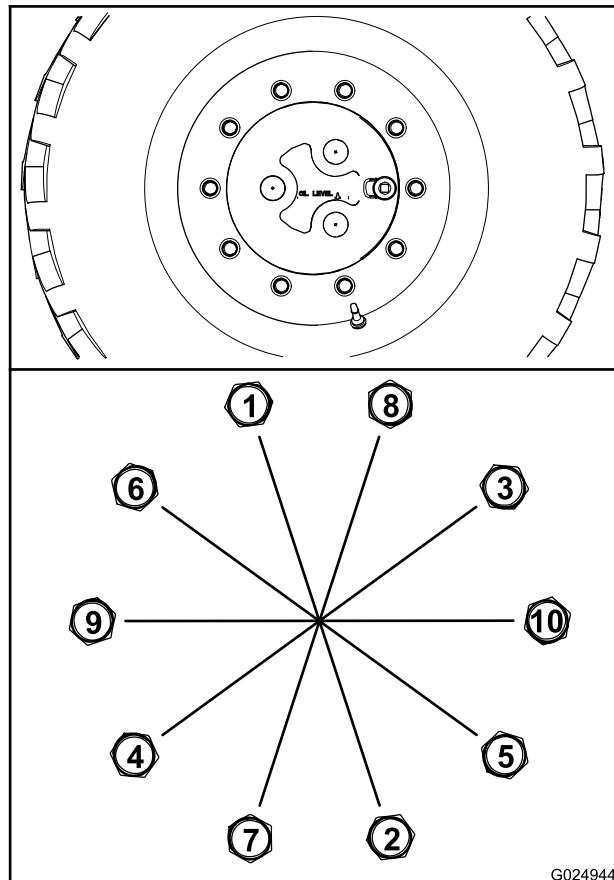

Figure 88
- B. Torque all the nuts to 200 N·m (150 ft-lb) in the sequence shown in Figure 88.
- C. Torque all the nuts to 300 N·m (225 ft-lb) in the sequence shown in Figure 88.
- A. Torque the all wheel nuts to 100 N·m (75 ft-lb) in the sequence shown in Figure 88.